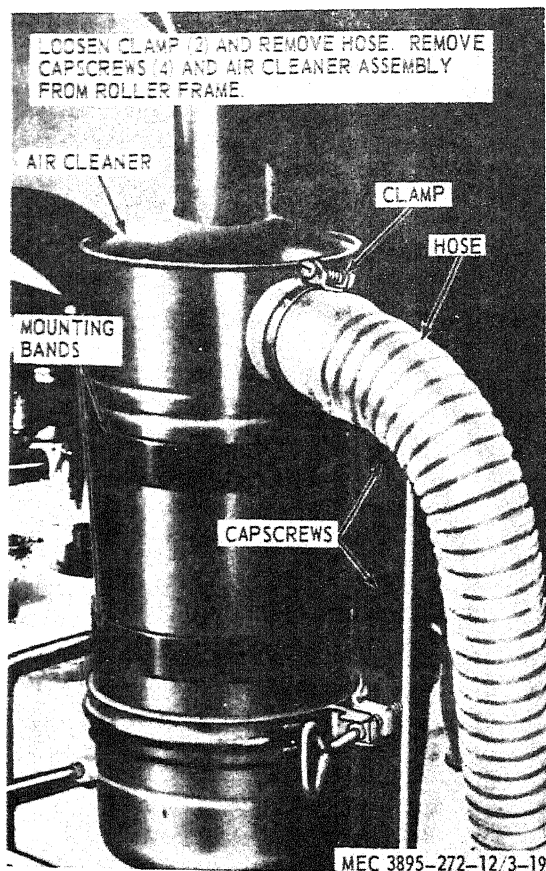

Figure 3-19. Air cleaner, removal and installation.
a. Removal. Remove the air cleaner from the roller as instructed on figure 3-19.
- (1) Install the two bands (5) on the body (1).
- (2) Install the inner oil cup (2), outer oil cup (3), and the clamp (4) on the body (1).
e. Installation. Install the air cleaner on the roller in reverse of the instructions on figure 3-19.